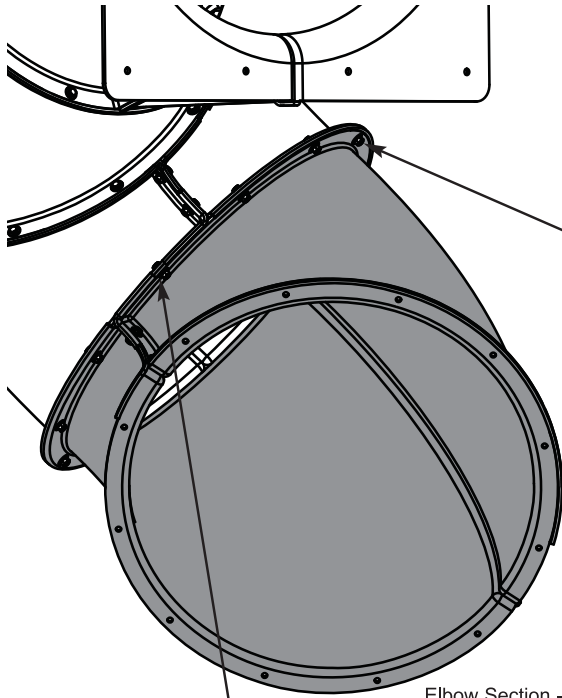

Fig. 4
1. Align third elbow so that Hole #1 aligns with the flange opening as shown in **(Fig. 4)** and **(Fig. 4c)** and secure in place.